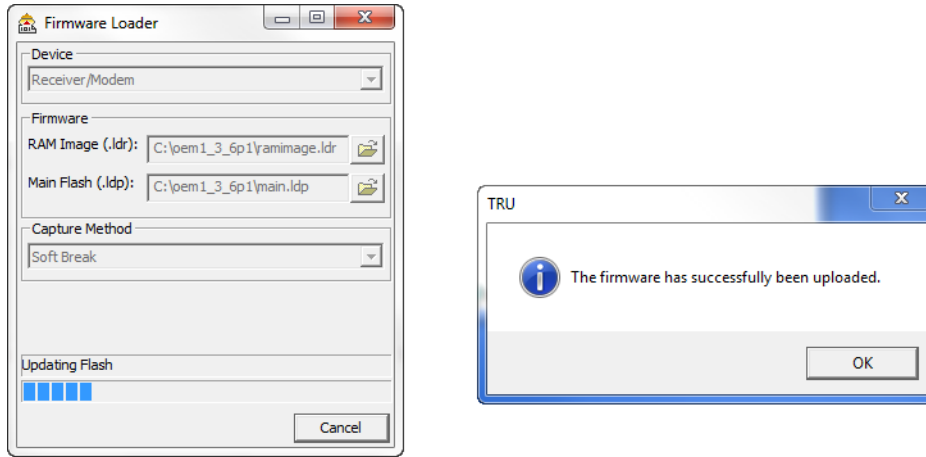

Figure 18: Finishing Firmware Upload
8. Click **OK** to continue uploading new firmware to the receiver (see Figure 18).